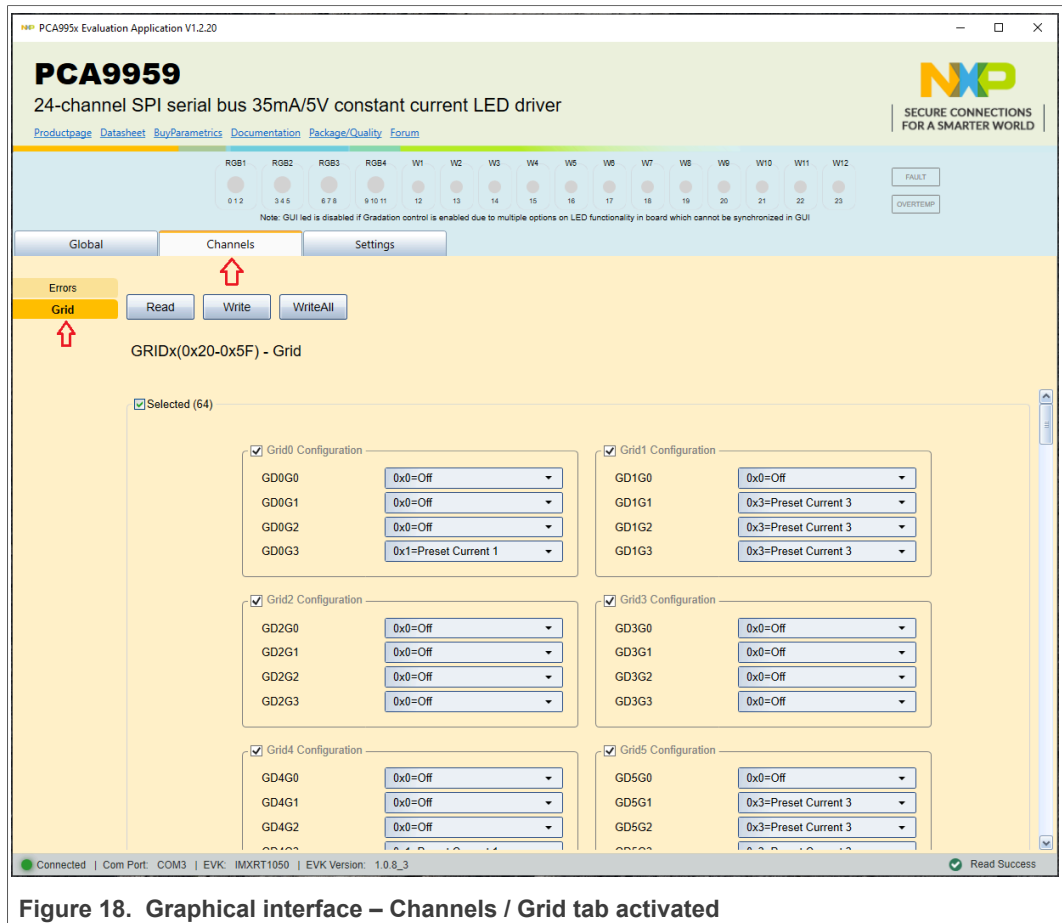

Figure 18. Graphical interface – Channels / Grid tab activated
9. Click **Channels** → **Grid** (see Figure 18).